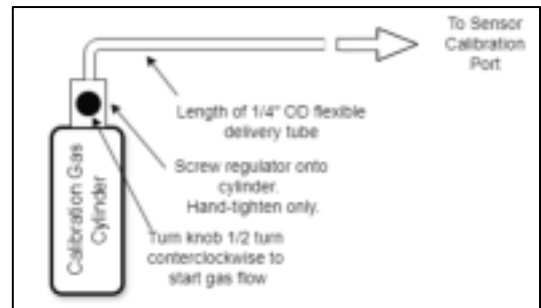

Figure 8: Calibration Gas Delivery Apparatus:
During calibration the KNET-CO2 Analog Input object's reliability will be set as shown in Table 4. During the calibration, the relay will be in an inactive state even if the CO₂ is above the setpoint. Calibration requires a calibration kit with calibration grade 2000 ppm CO₂, balance air or nitrogen gas, available from KELE as part number KCAL-2000. Assemble its gas delivery components as shown in Figure 8.
2. Pass the 1/4" OD calibration gas tube into the 'Calibration Gas Port' and slide onto the fitting inside. Enable calibration gas flow by turning the regulator knob a half-turn counter-clockwise (see Figure 8).